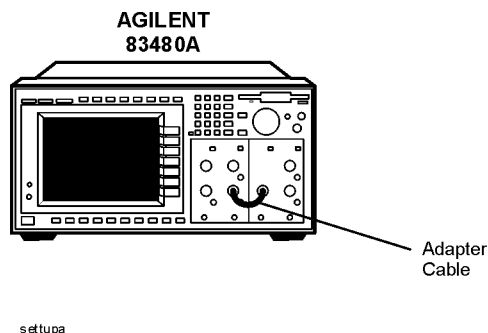

Figure 1-3. The adapter cable
- 5 Connect the supplied adapter cable as shown in Figure 1-3.